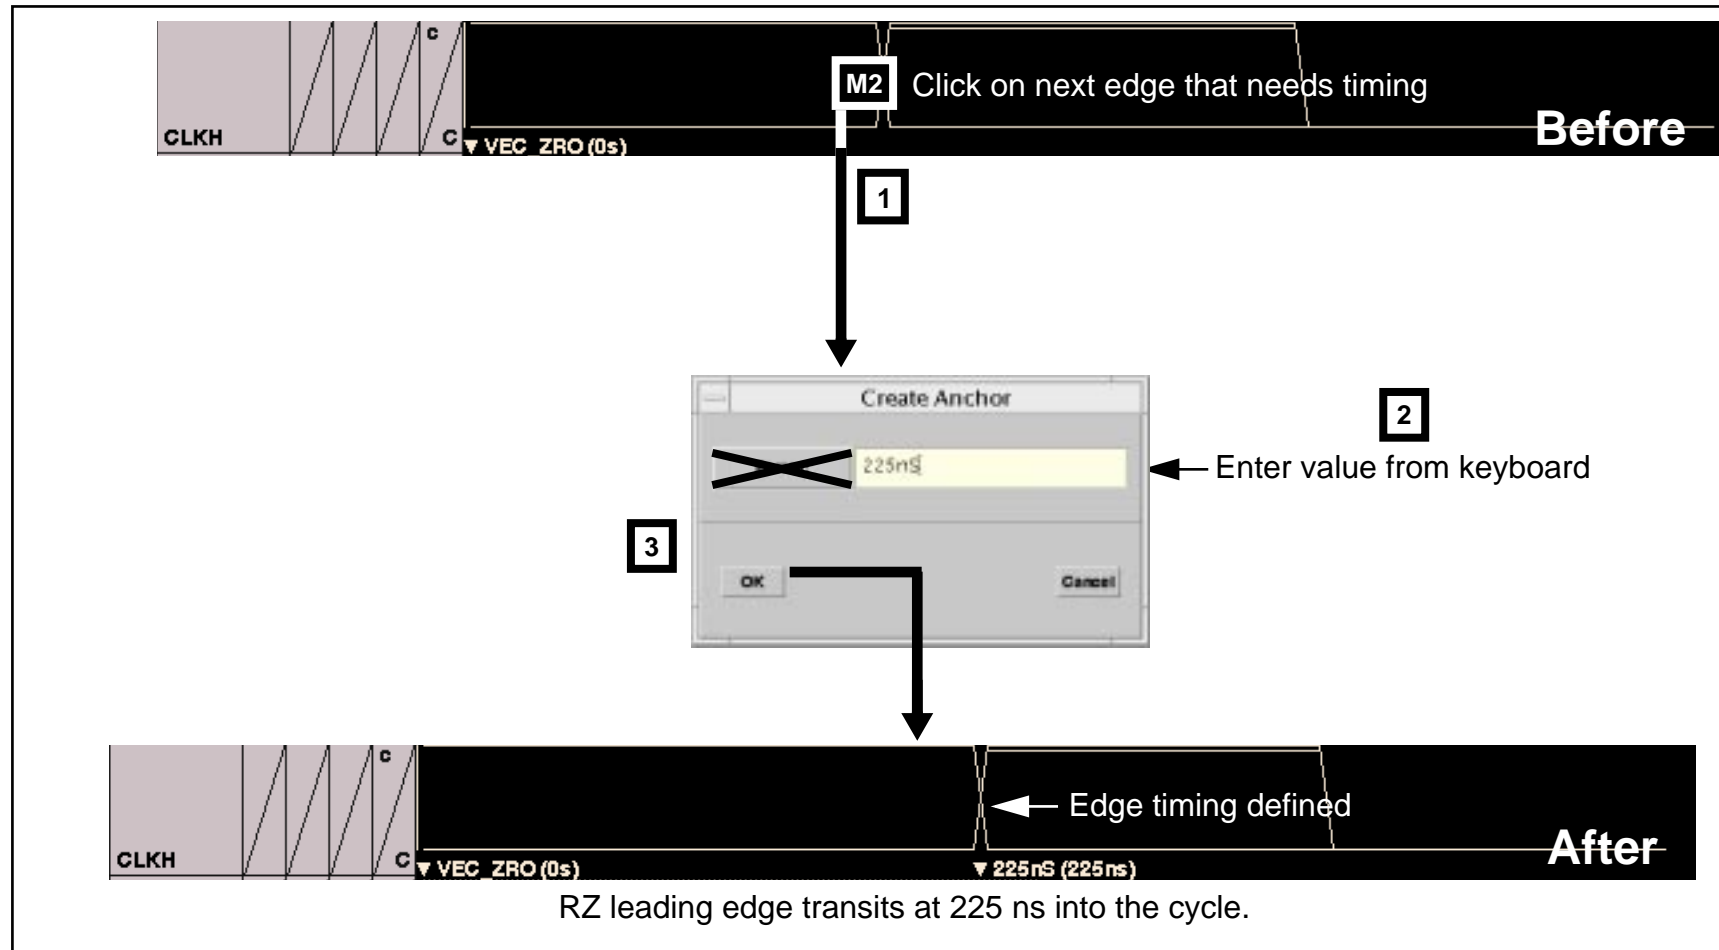

Figure 2.38: Attaching Absolute Timing by Using Keyboard
- d. Use M1 to select the required time spec parameter from the list. Or, use the keyboard to enter an absolute timing value into the text field next to the Param: button; see Figure 2.38.